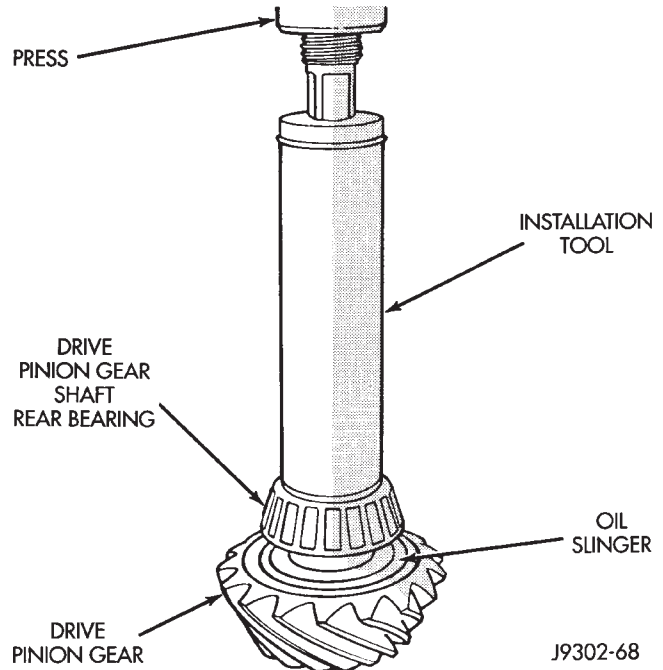

Fig. 50 Rear Pinion Bearing Installation
(6) Install the rear pinion bearing and oil slinger, if equipped, on the pinion gear with Installer W-262 and a shop press (Fig. 50).